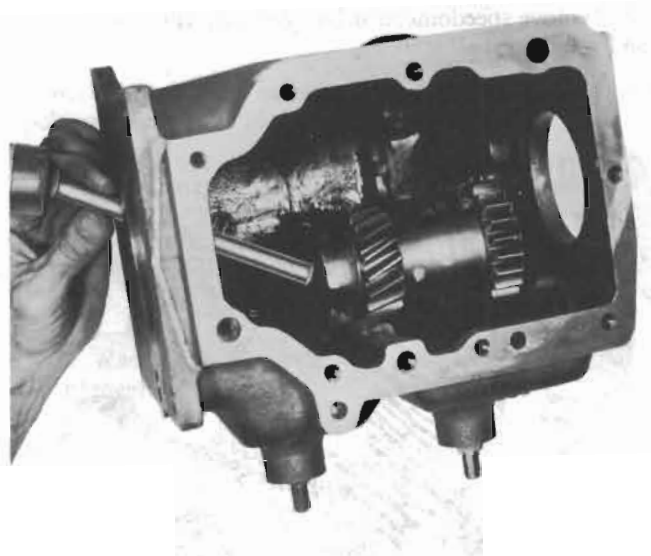

Figure 72-79 - Removing Reverse Idler Gear
- 22. Using a brass drift, drive reverse idle gear shaft out rear of case. See Figure 72-79. Remove gear from case.